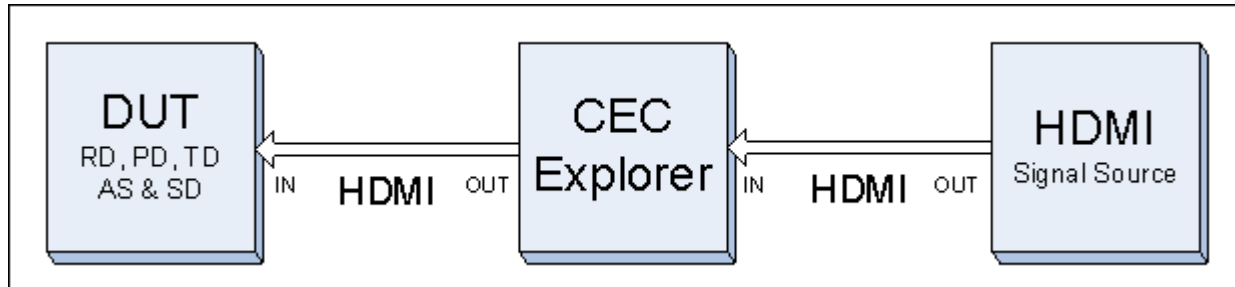

Figure 65: Configuration for a Source with HDMI In Port
- A source DUT with an IN port under test shall be connected to the OUT1 port. In this case, a HDMI signal source has to be connected to the IN port (Figure 65).